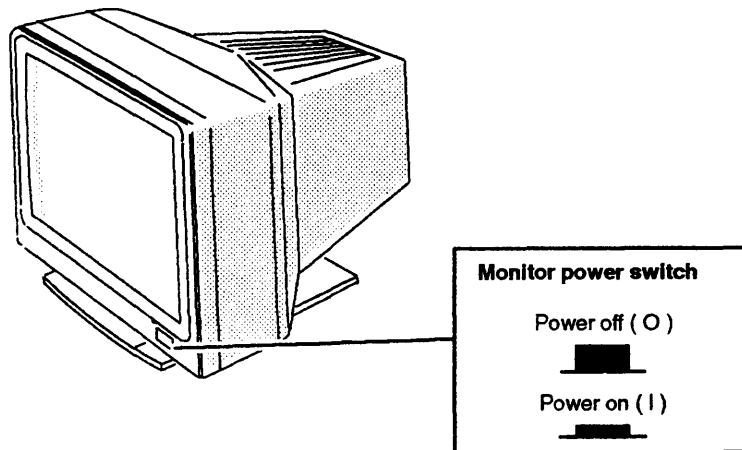

Figure 2-3 Placing the Graphics Monitor
1. Place the monitor on top of the work surface. Make sure that the power switches for both the computer unit and the monitor are off, as shown in Figure 2-3.